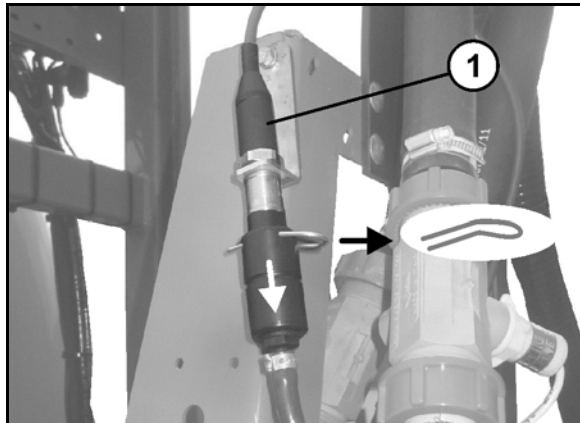

Fig. 152
16. **Super-S boom:** drain the pressure sensor (Fig. 152/1) by removing the hose from the pressure sensor.